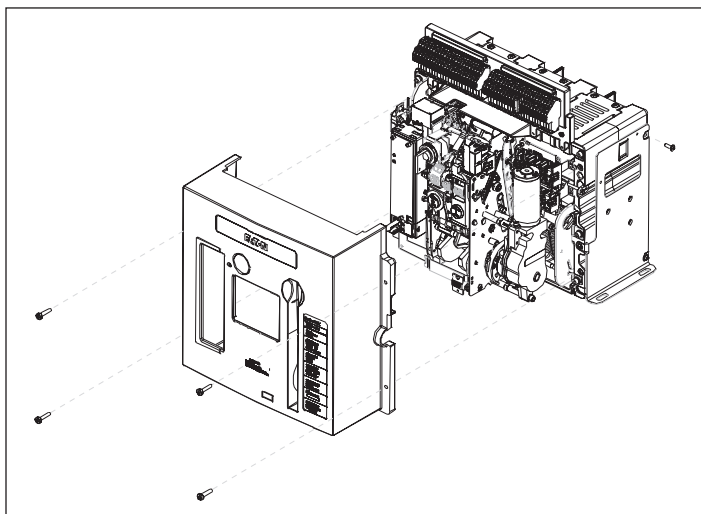
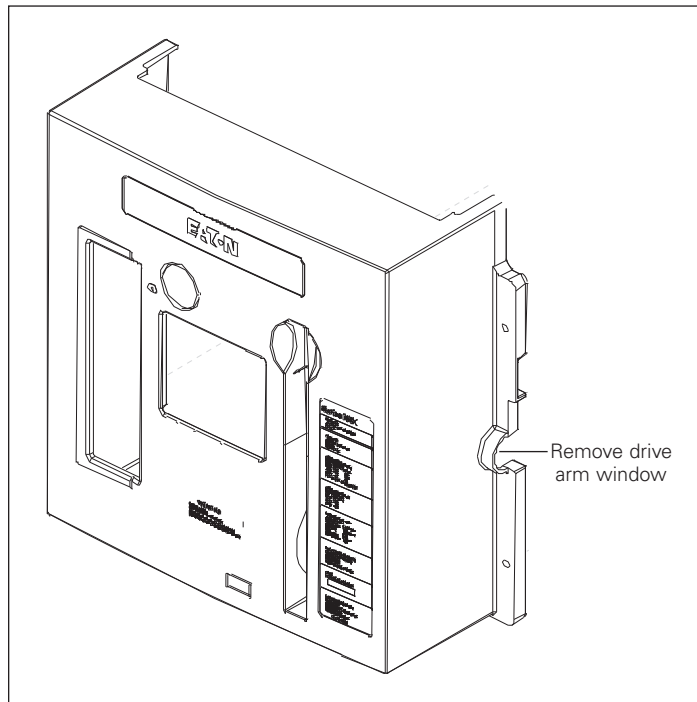
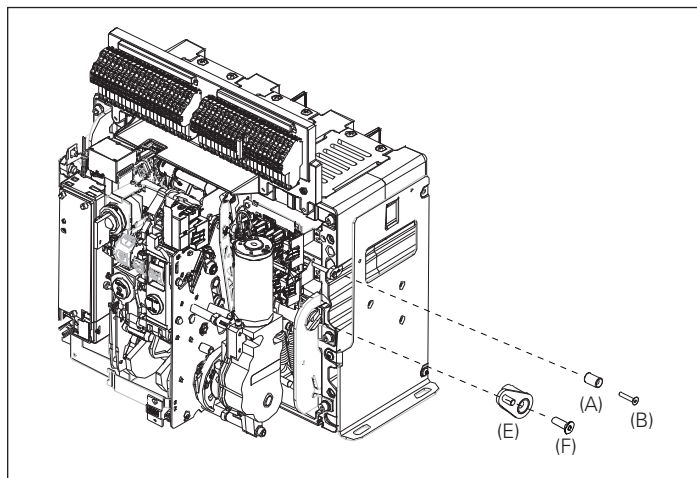

Figure 4. Details for Steps 1 and 2
Figure 5. Details for Steps 1 and 2
Figure 6. Details for Steps 3 and 4
Remove the four screws (six for 4-pole breaker) holding the cover in place. Pull down on the charging handle and remove the front cover as shown in **Figure 4**. Remove drive arm window as shown in **Figure 5**. Either use a utility knife to cut the window from the cover or use a punch and a small hammer to carefully punch out the window. Once the window is removed, use a small file to remove any burrs that remain. Make certain that all pieces and/or particles are cleaned up and removed before proceeding.
Remove and retain the upper right M5 x 12 mm screw from the fixed breaker mounting foot (ref. IL01301076E) as shown in **Figure 4**.
Install the drive arm (E) to the end of the pole shaft using an M6 x 35 mm flathead screw (F) as shown in **Figure 6**. Apply LoctiteT Blue 242 to ensure that the screw cannot come loose during operation. The drive arm should be oriented as shown in **Figure 5**. Torque to 7,3–9,6 N·m (65–85 in-lb).
Install the trip pin (A) to the trip bar using an M3 x 16 mm flathead screw (B) as shown in **Figure 6**. Apply Loctite Blue 242 to ensure that the screw cannot come loose during operation. Use a wrench to hold the trip lever during installation. Torque to 0,3–0,6 N·m (3-5 in-lb).